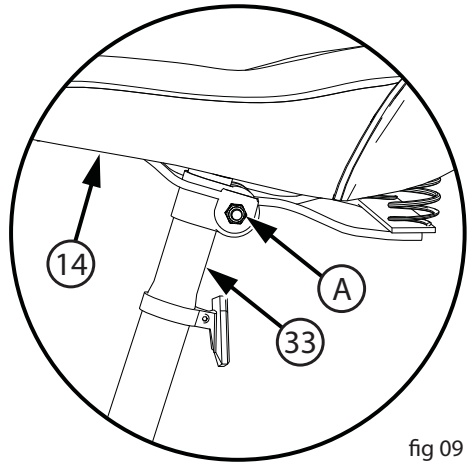

fig 09
Attach Seat to Seat Post (fig 09):
- **If the seat moves in the Seat Clamp (A) (fig 09):**
- **If the Seat Post (33) moves in the Seat Tube (B):**